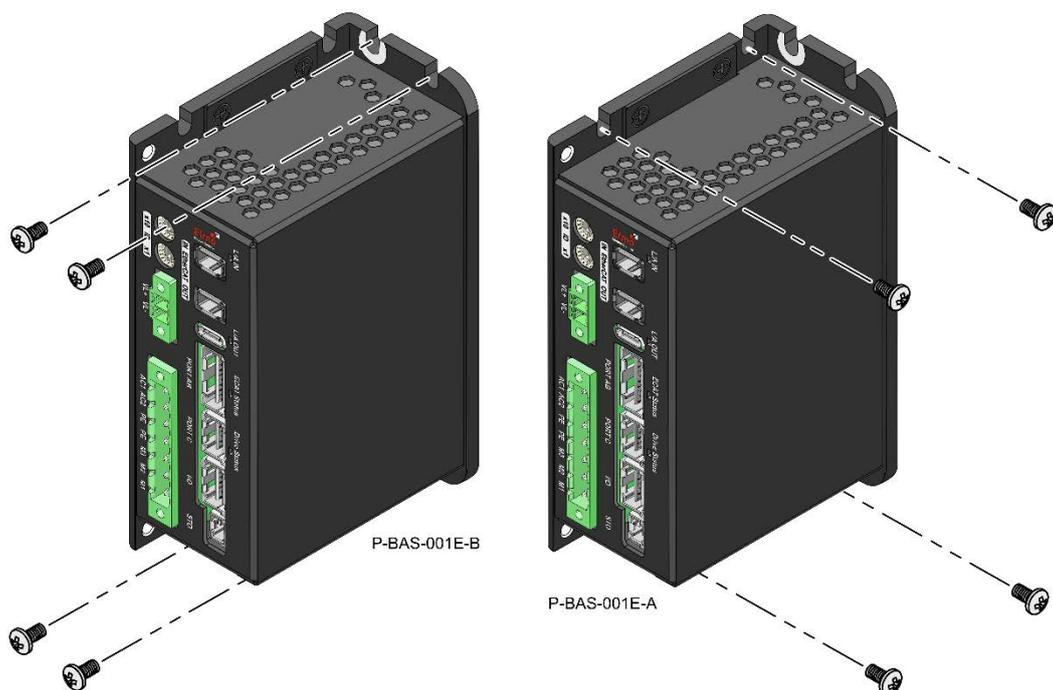

Figure 1: Wall-mounting (left) and table-mounting (right) the Platinum Bassoon
- For wall mounting the Platinum Bassoon, use four M4 screws, as shown in Figure 1 below.
- For table mounting the Platinum Bassoon, use four M4 screws, as shown in Figure 1 below. This is the recommended way to mount the L-shaped Platinum Bassoon.